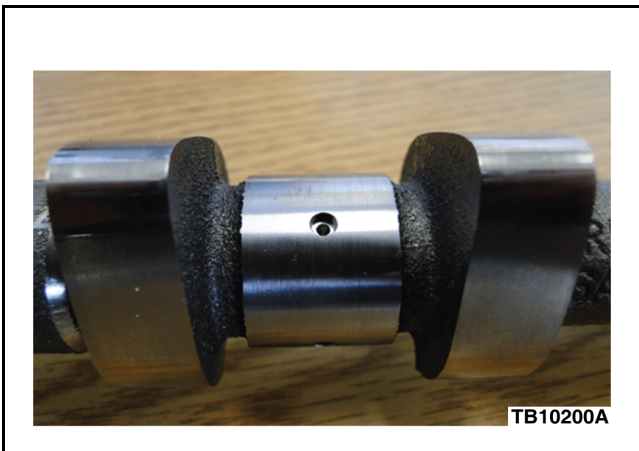

Figure 4 - Article 12-1-17
7. Gently tap the cup plug into the camshaft oil feed hole. The plug should be countersunk below the surface of the journal. (Figure 4)